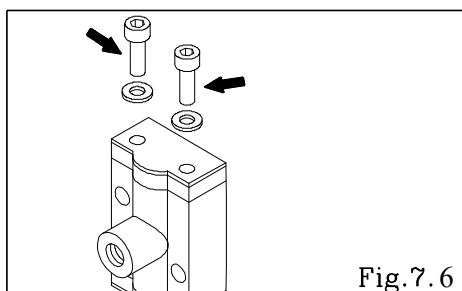

Fig.7.6
- Reinforcement plate A, Reinforcement plate B [Fig.7.6]